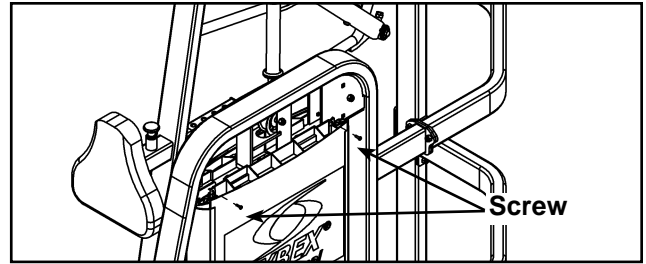

Figure 17
- B. Install the top two screws securing the back shroud. See Figure 17.